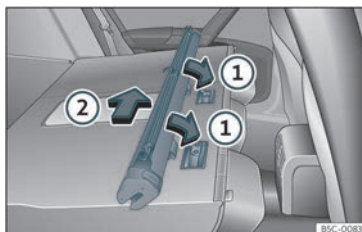

Fig. 123 Assembling the net partition in the rear seat backrests.
- Place the net casing in the rail slots in the direction of the arrows»» **Fig. 123 ①**.
- Push the casing towards the left side of the vehicle in the direction of arrow»» **Fig. 123 ②** and as far as it will go.
- Pull the net casing out approximately 5 cm in the opposite direction to the arrow »» **Fig. 123 ②**.
- Remove the casing from the rails by pulling in the opposite direction to the arrows »» **Fig. 123 ①**.